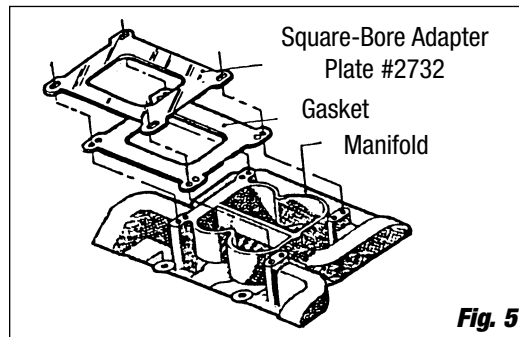

Fig. 5
- 5. **You must use Edelbrock Adapter #2732** when installing a Performer Series carburetor on certain Edelbrock intake manifolds. In those applications, install the adapter as shown (See Fig. 5).